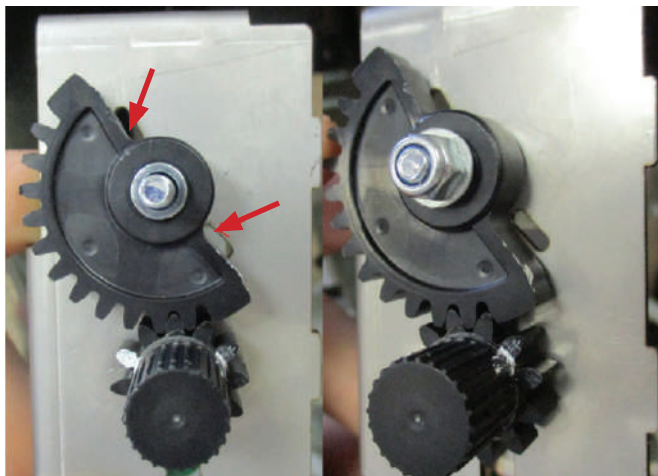

Fig.4.13
6. After obtaining the required result set the geared sector as shown in fig. 4.13.